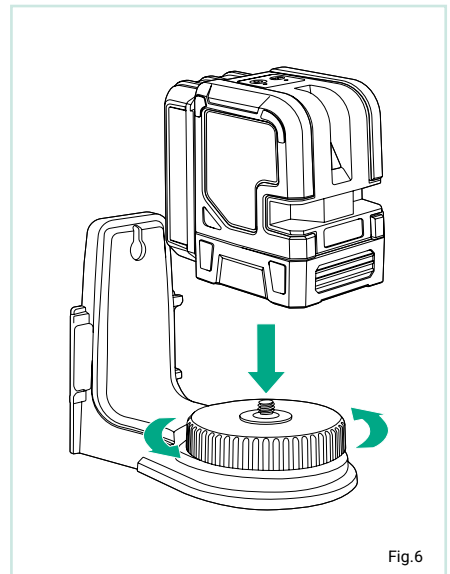

Fig. 6
- Attach the laser level to the mount using the thumb screw (Fig. 6).